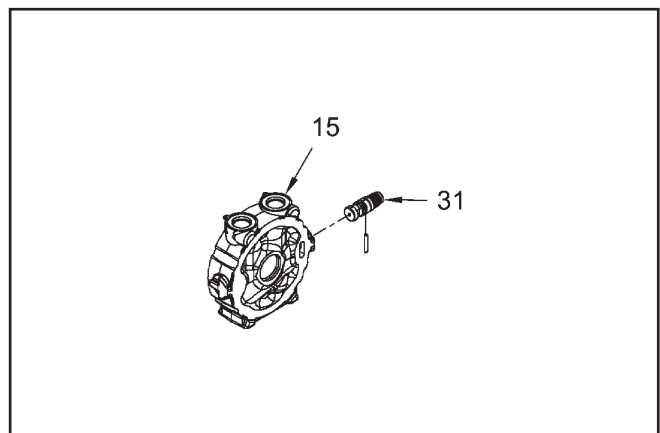

Figure 37
12. Install puck (42) into the port block (15), then install the port block onto the motor shaft (13). Note: When installing the port block assembly, pull on the cam (31, Fig. 37) to keep the puck (42) from falling out of the